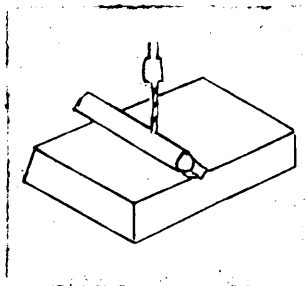

Figure 5.
2. If stock is round, place in a wooden "V" block. This holds the stock steady and lessens the chance of breaking the drill by turning of the stock. (Figure 5).